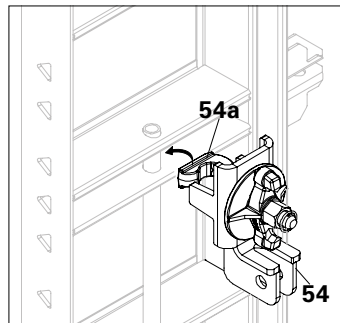

Fig. A6.07a
1. Attach the J-hook (54a) of external brace connector (54) at stiffener pipe location. (Fig. A6.07a)